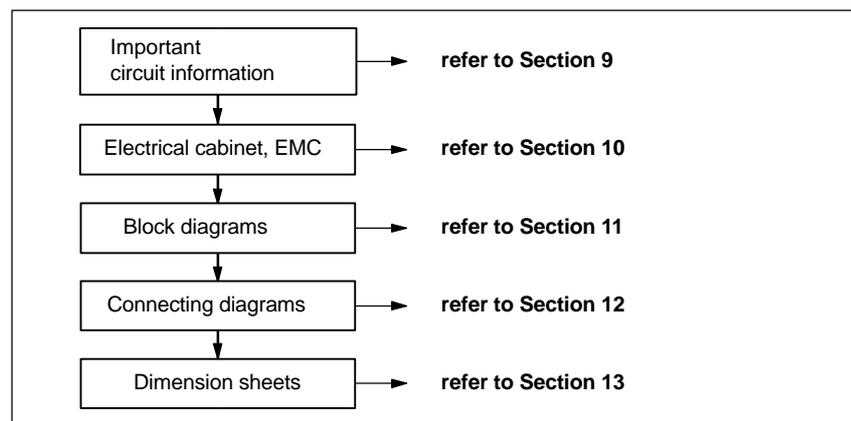

Fig. 1-5 Connection configuration
- Phase 2            Connection configuration            (refer to Fig. 1-5)